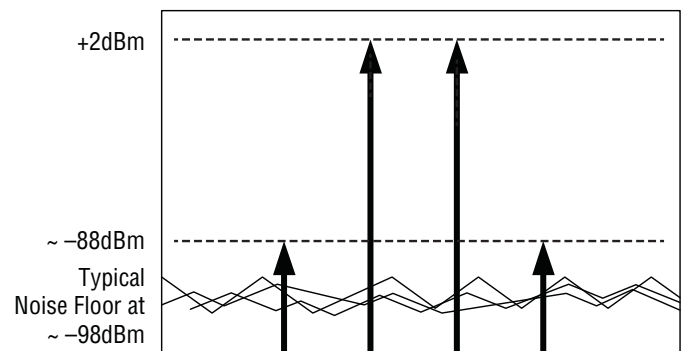

Figure 4. Optimum Input Attenuation
- e. Insert a small attenuator pad (3dB or 6dB at the signal combiner inputs) into the setup and observe if the setup limits the intermodulation products level. (i.e. for a good IP3 test setup with sufficient port-to-port isolation, when measuring the intermodulation products, their amplitude level (in dBc), will not be changed when a small attenuation pad insert into the setup). Figure 4 shows the setup at the optimum input Attenuation.